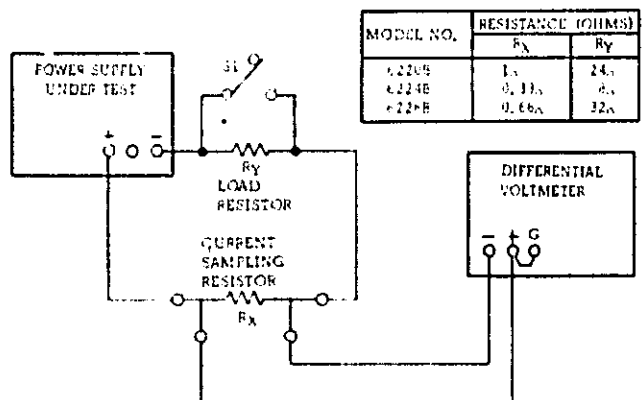

Figure 5-4. Output Current, Test Setup
- a. Connect test setup as shown in Figure 5-4 leaving switch S1 open.
- Connect test setup as shown in Figure 5-4.